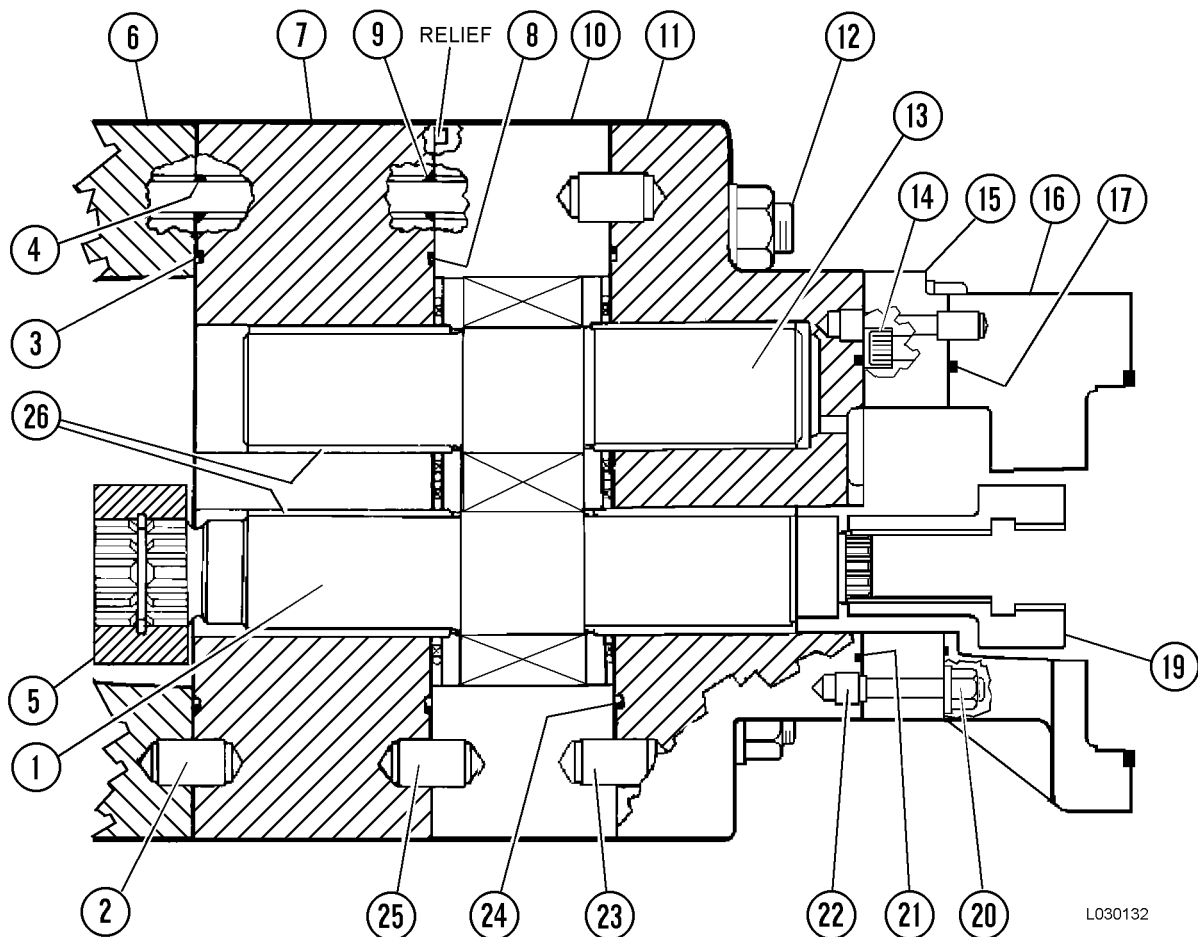

FIGURE 3-15. HOIST PUMP REASSEMBLY
17. Lubricate O-ring (3, Figure 3-15) and install it in bearing plate (7). Lubricate O-rings (4) and install them over studs (12). Replace dowel (2) if removed. Install bearing plate (7).
19. Lubricate the inside diameter of bearings (26). Install O-rings (8) and (9) and dowel (25) if removed. Install gear plate (10). Make sure that the relief in the gear plate is toward bearing plate (7).
22. Lubricate and install O-ring (24, Figure 3-15) in connector plate (11). Install dowel (23) if removed. Lubricate the inside diameter of the bearing in connector plate (11). Install connector plate (11) with flat washers and nuts.
23. Install dowel (22) if removed. Lubricate and position O-ring (17) in transition plate (16). Assemble bearing plate (15) to the transition plate and install capscrews (14). Tighten the capscrews to standard torque.
24. Lubricate O-ring (21) and position it on bearing plate (15). Install the assembled bearing plate and transition plate to connector plate (11) and secure it with nuts (20). Tighten the nuts to standard torque.
25. Install coupling (19).
30. Install a new O-ring on the steering pump flange and install the steering pump onto transition plate (16, Figure 3-15). Install the capscrews and tighten them to standard torque.